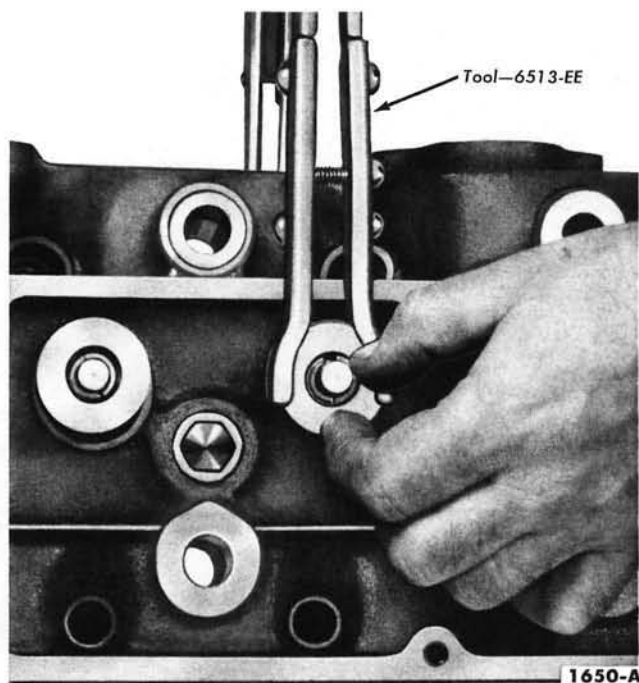
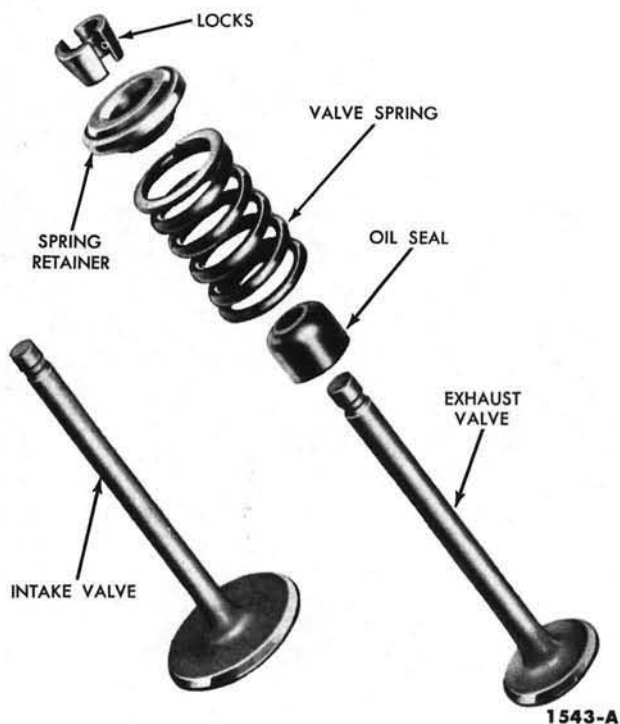

FIG. 22—Valve Spring Retainer Locks—Removal or Installation
FIG. 24—Valve Assembly
1. Remove the spark plugs. Clean the deposits from the cylinder head. Compress the valve springs (Fig. 22), then remove the spring retainer locks, and release the spring.
1. Install each valve (Fig. 24) in the valve guide from which it was removed or to which it was fitted. Install a new stem seal on the valve. Position the valve spring over the valve, then install the spring retainer and sleeve. Compress the spring and install the retainer locks (Fig. 22).